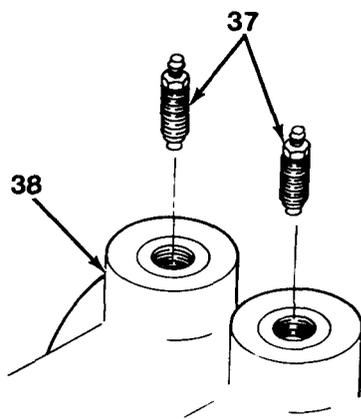

Figure 13-10
22. Remove two bleeder screws (37) from housing (38, Figure 13-10).
1. Install two bleeder screws (37) in housing (38, Figure 13-10).